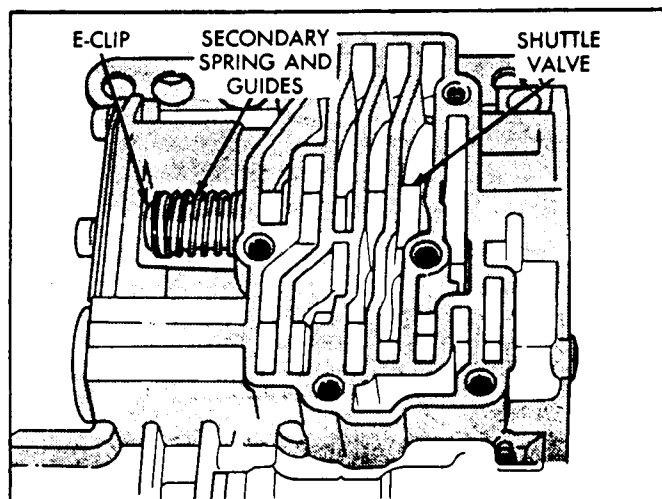

Figure 90
13. Compress the secondary spring, install the "E" clip in groove at end of the shuttle valve (See Figure 90).